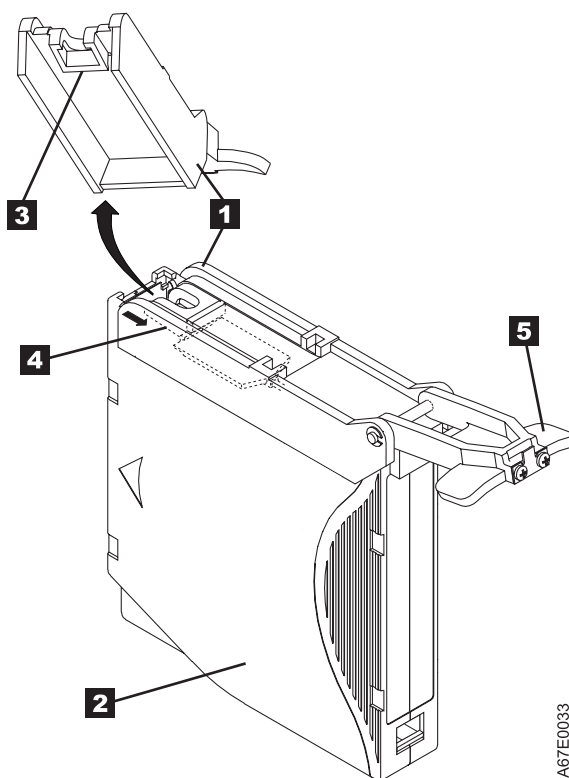

Figure 22. Attaching the leader pin attach tool to the cartridge. To hold the cartridge door open, hook the tool into the door and pull the tool back.
1. Attach the leader pin attach tool (**1** in Figure 22 on page 46) to the cartridge **2** so that the tool's hook **3** latches into the cartridge's door **4**. Pull the tool back to hold the door open, then slide the tool onto the cartridge. Open the tool's pivot arm **5**.